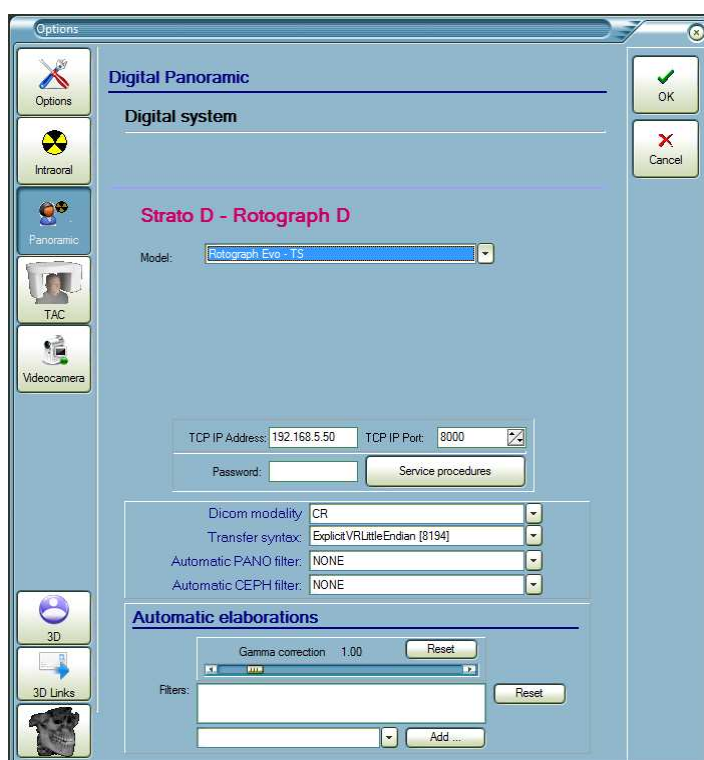

Figure 7-15
4. Select the "Options" button, then "Panoramic" button. On "Password" field, insert the value "1771" (Figure 7-15) and press "Service procedures" button to open the calibration program; the "Exam Family" menu will be displayed: